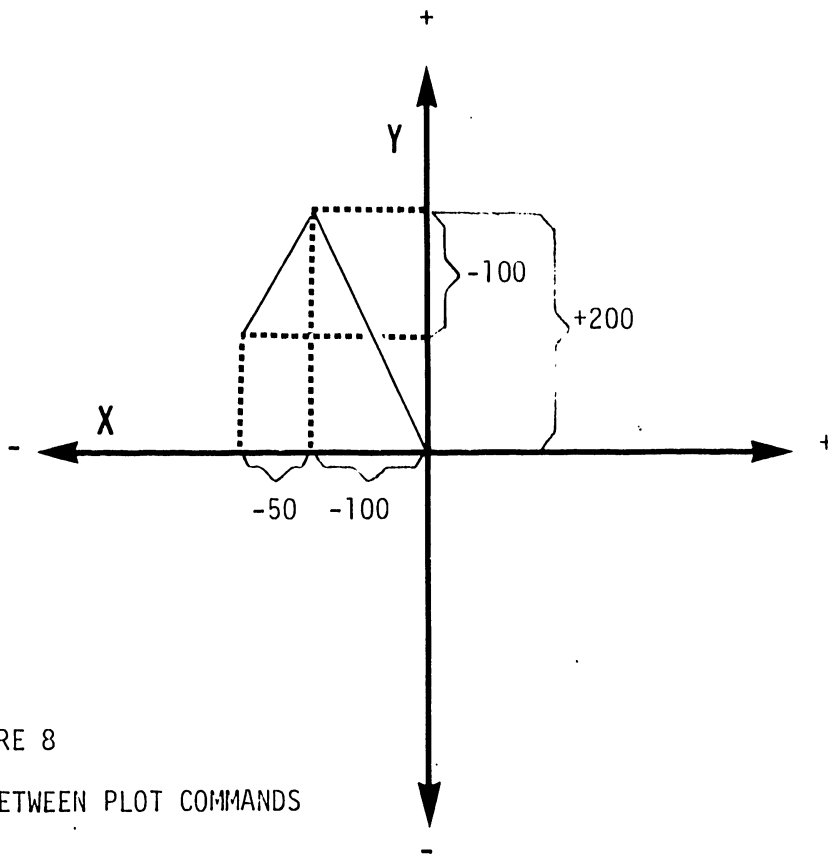

FIGURE 8
- 4) In the following example the direction of plot is changed for the second line of the plot. See Figure 8.